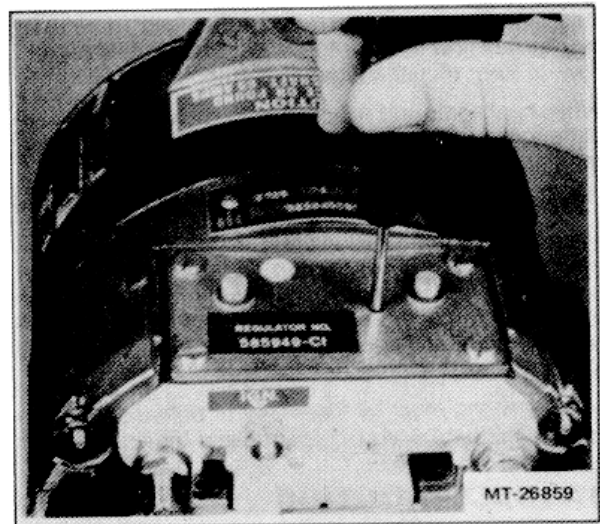

Figure 5 - Adjusting Voltage Regulator.
3. To adjust the regulator, shut off all electrical accessories and run the engine at about 1000 RPM. Check the voltage across the alternator output terminals. Remove the plastic screw from the regulator and engage a small screwdriver with the adjustment screw inside the access hole (Figure 5).